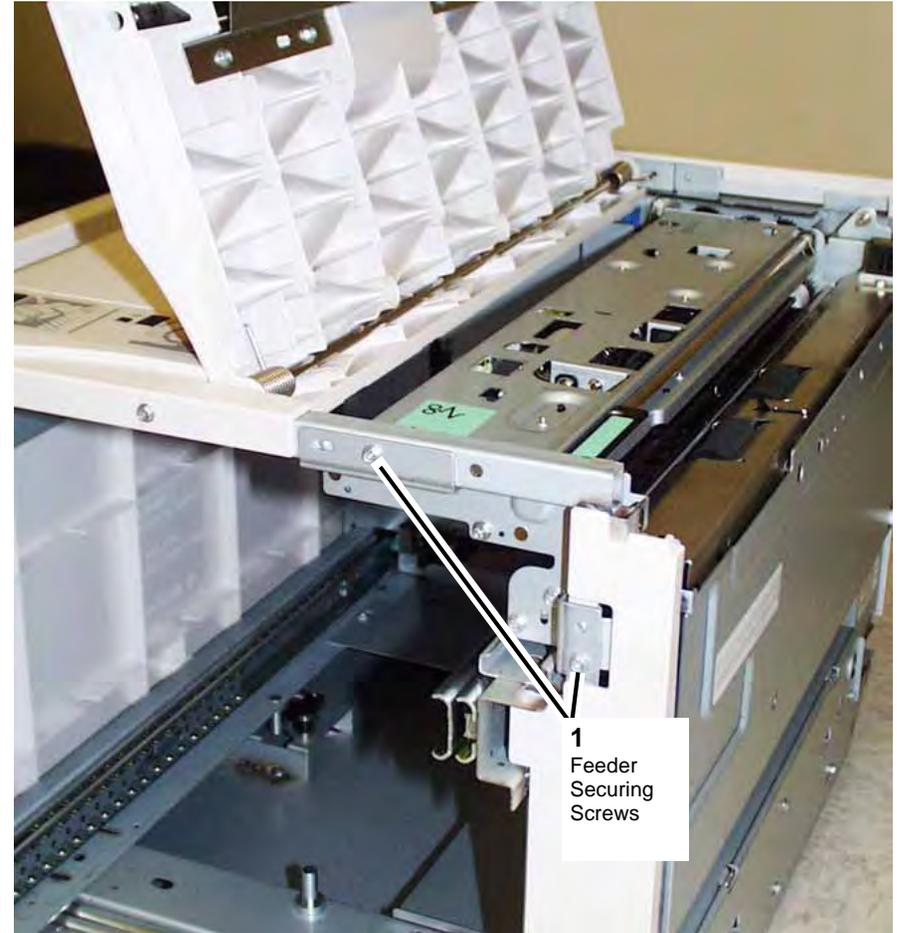

Figure 1 Feeder Securing Screws
4. Remove the (2) screws used to secure the HCF Feeder on its rail (Figure 1).